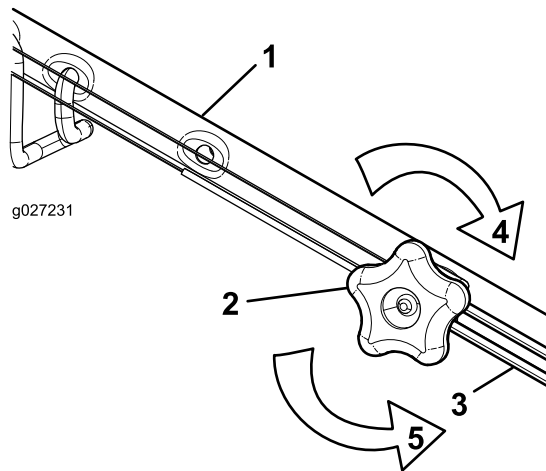

Figure 32
1. Turn the adjustment knob counterclockwise to loosen the cable adjustment (Figure 32).
2. Adjust the tension on the cable (Figure 32) by pulling it back or pushing it forward and holding that position.